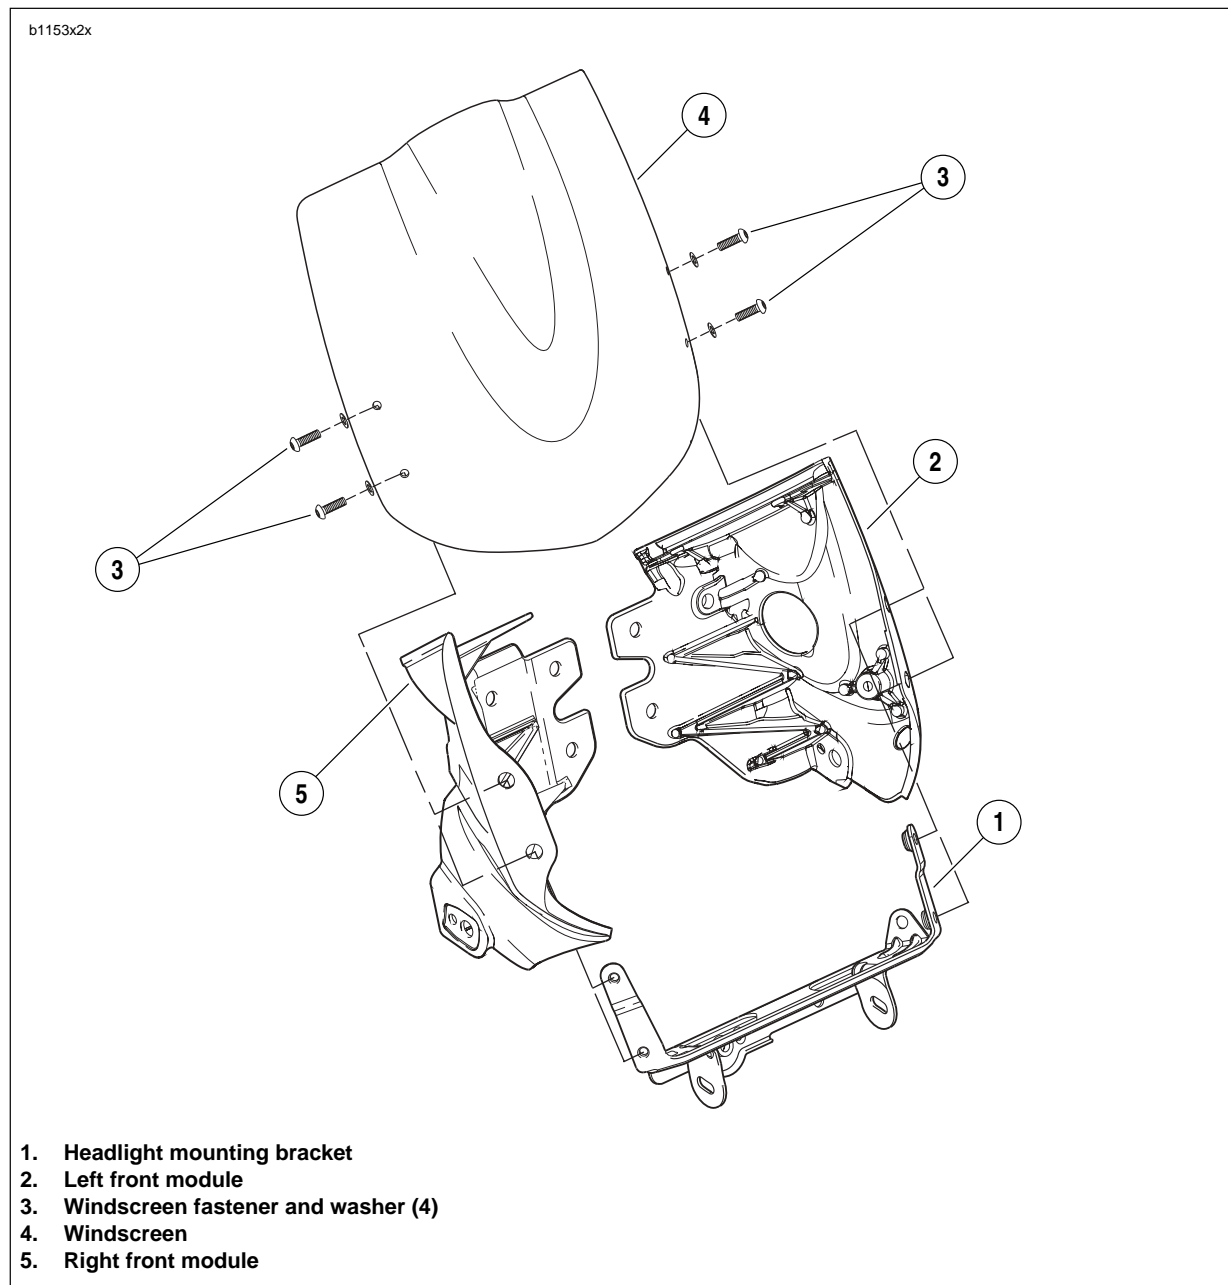

Figure 2-128. Front Windscreen
1. See Figure 2-128. Remove four windscreen fasteners and washers (3).
2. Remove windscreen (4).
1. See Figure 2-128. Position windscreen (4) onto left and right front modules (2, 5).
2. Install four fasteners (3) and tighten to 10-12 in-lbs (1.1-1.4 Nm).